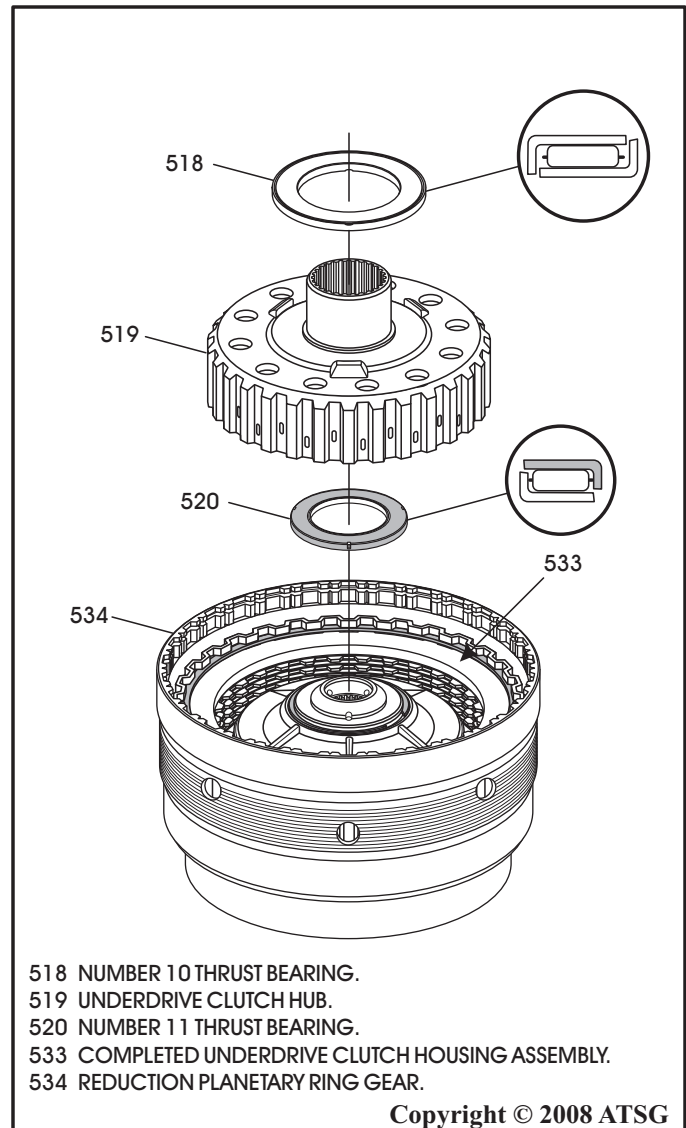

Figure 128
22. Install the number 11 thrust bearing, as shown in Figure 128, with the black side facing up.
23. Install the underdrive clutch hub, as shown in Figure 128, by rotating back and forth until it is fully seated.
24. Install the number 10 thrust bearing, as shown in Figure 128.